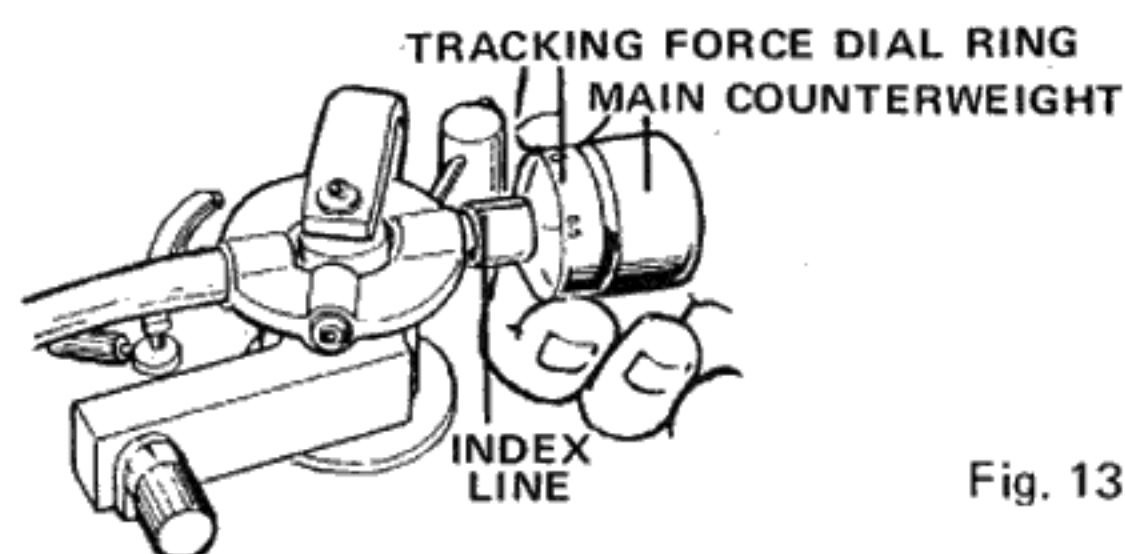

Fig. 13
2. While holding the main counterweight in position, turn the dial ring until the 0 reading on the dial aligns with the black index line engraved on the tonearm. The tracking force is now zero (Fig. 13). Be careful not to move the main counterweight.